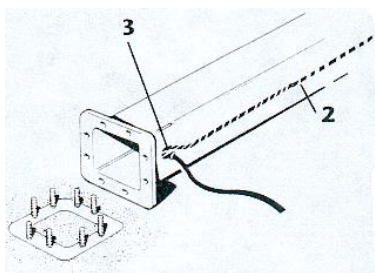

fig. 27
- b) In the case of cable 1 coming from the outside, insert it into the column using the specific grommet 3 located at the base of the column, until reaching hole 2 at the top (fig. 27)
- 1) Once the counterplate has been fixed, push the power cable 1 into the pillar on the ground and through the hole at the top of the pillar, according to the following layout: if the cable 1 comes from outside, push it into the pillar using a suitable fairlead 3 placed at the bottom of the pillar, until it reaches hole 2 at the top (fig. 27)